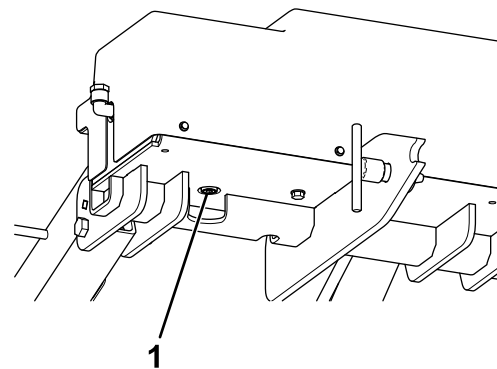

Figure 29
2. Clean the area around the hydraulic drain plug (Figure 29).